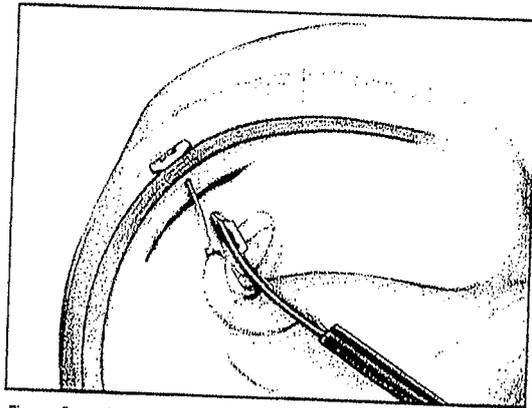

Figure 5. Implant 2 fully advanced to the ready position
4. Using the tip (rather than the volar pad) of the thumb, slide the gold trigger forward to advance the second implant into the ready position (Photo 7 and Figure 5).